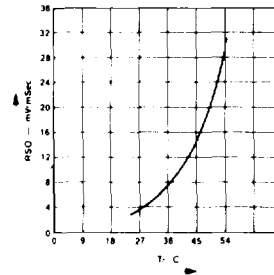

Fig. 7
- Rate of Average-Signal Offset is caused by leakage current in the registers. It is function of temperature. See Figure 7.